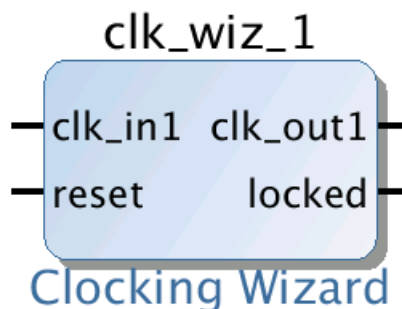

Figure 43: `clk_wiz_1` Block
2. Using the IP search, find the Clocking wizard, and add that IP, as shown in Figure 43.